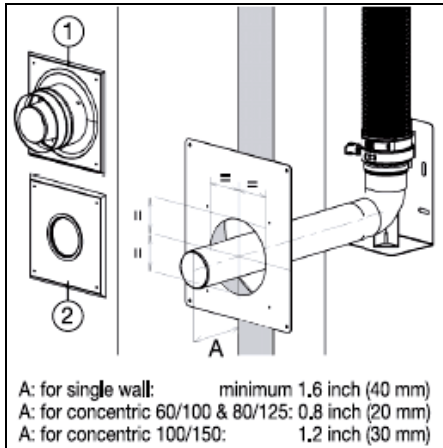

Figure 9 – Mounting the Wall Plate
12. Mount the wall plate on the wall of the shaft (Fig. 9). Pay attention to the correct slope of 3° . The pipe of the support elbow must be in the center of the hole in the wallplate. See Fig. 9 for proper installation.
13. Depending on the type of system (single wall or concentric) the support elbow can be shortened. For single wall, the length of A (Fig. 9) must have a minimum length of 3" (40 mm). For concentric 60/100 end 80/125, the minimum length of A must be .8" (20 mm). For concentric 100/150, A must be 1.2" (30 mm).
14. Fix the correct version of the shaft connector to the wall plate (see Fig. 9, 1 or 2).